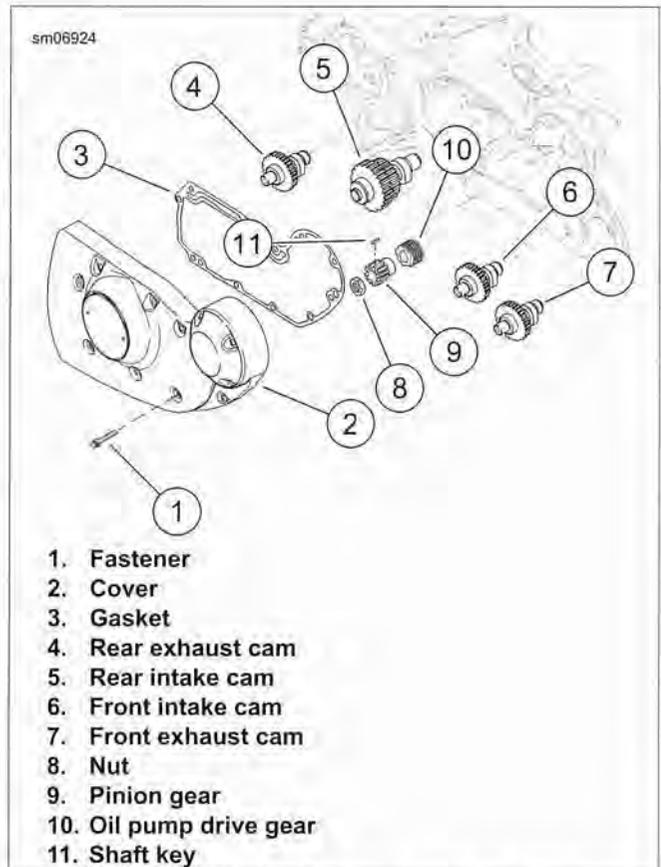

Figure 3-103. Gearcase Cover and Cam Gears
5. See Figure 3-103. Remove cover screws (1) and cover (2). Discard old gasket (3).